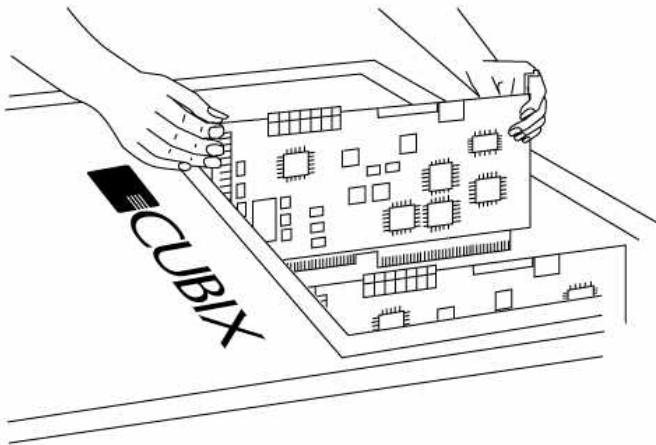

Figure 7 Inserting Server Board into Chasis Group
4. Insert the board into the group slot, ensuring the card interface tabs are aligned with the center of the slot (see Figure 7).